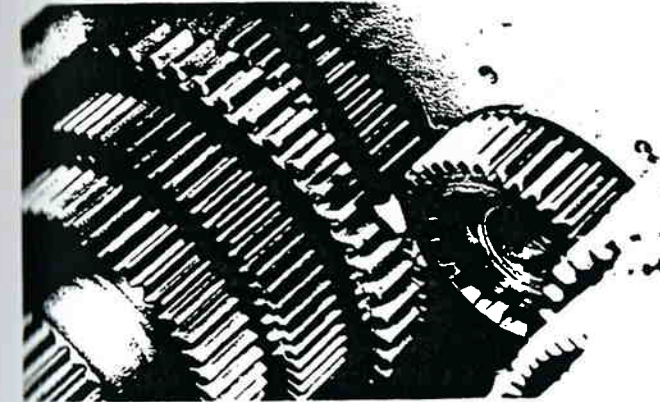

Figure 13-109. Meshing Marked Teeth.
2. Mesh the marked tooth of left countershaft drive gear with the set of two marked timing teeth of main drive gear (figure 13-109).